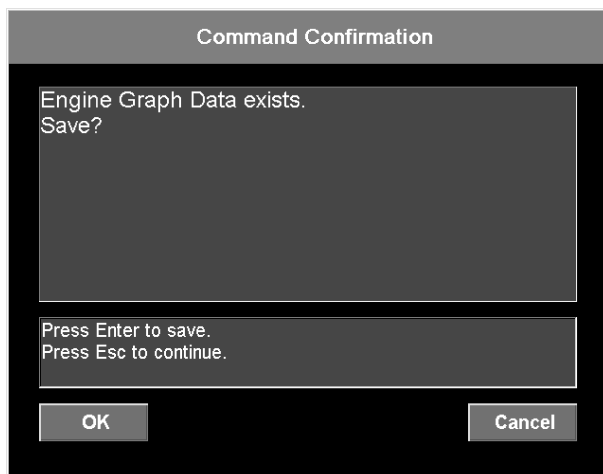

Fig. 29
7. The program displays a confirmation dialog asking whether you are sure you wish to delete previously saved signal and graph data (see Fig. 29). Click the **OK** button (or press the Enter key) to save the new data (overwriting the old data). The graph window will then close.